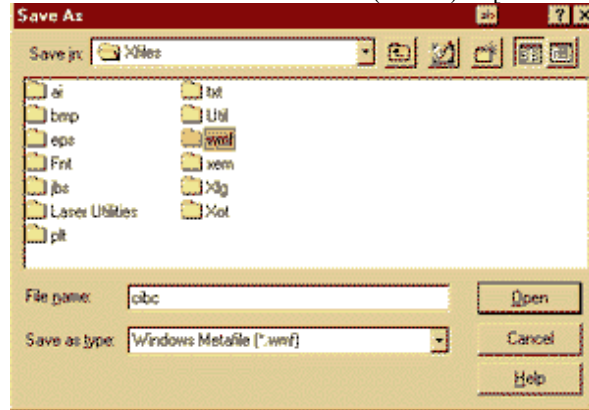

Figure 3
- 4. If you want to save the traced image to disk: while still in HP PrecisionScan Pro, click **File | Save as...** and select an appropriate file folder into which you would like to store the file. This might be A: drive if your scanner is not connected to the PC with which you run the Xenetech. If however you are saving to your local hard drive, you may want to use the file folder created under your C:\XFILES\WMF folder when Xenetech was installed (see Figure 3). Be sure the **Save as Type** combobox shows **Windows Metafile(*.wmf)**. [see note #2]